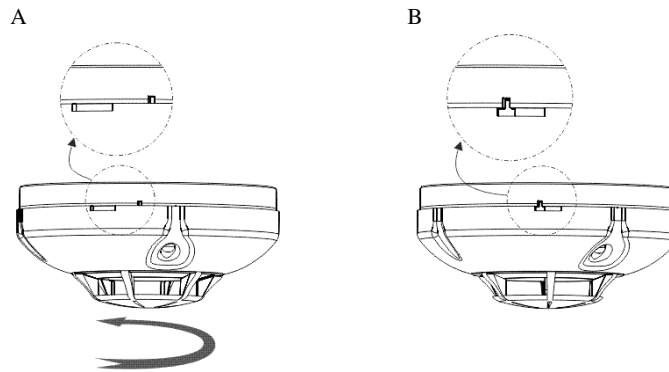

Figure 5
5.5 For installing the detector body, place it onto the base as shown in Figure 5 (A) and rotate clockwise until reaching into the guiding grooves. Then rotate it until rest as shown in Figure 5 (B).